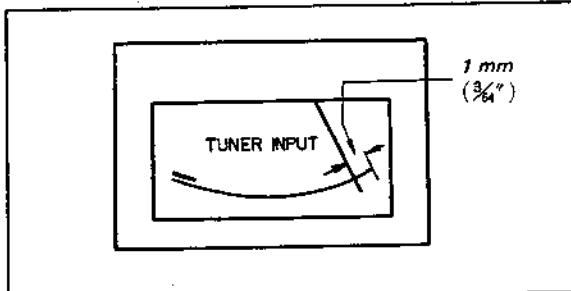
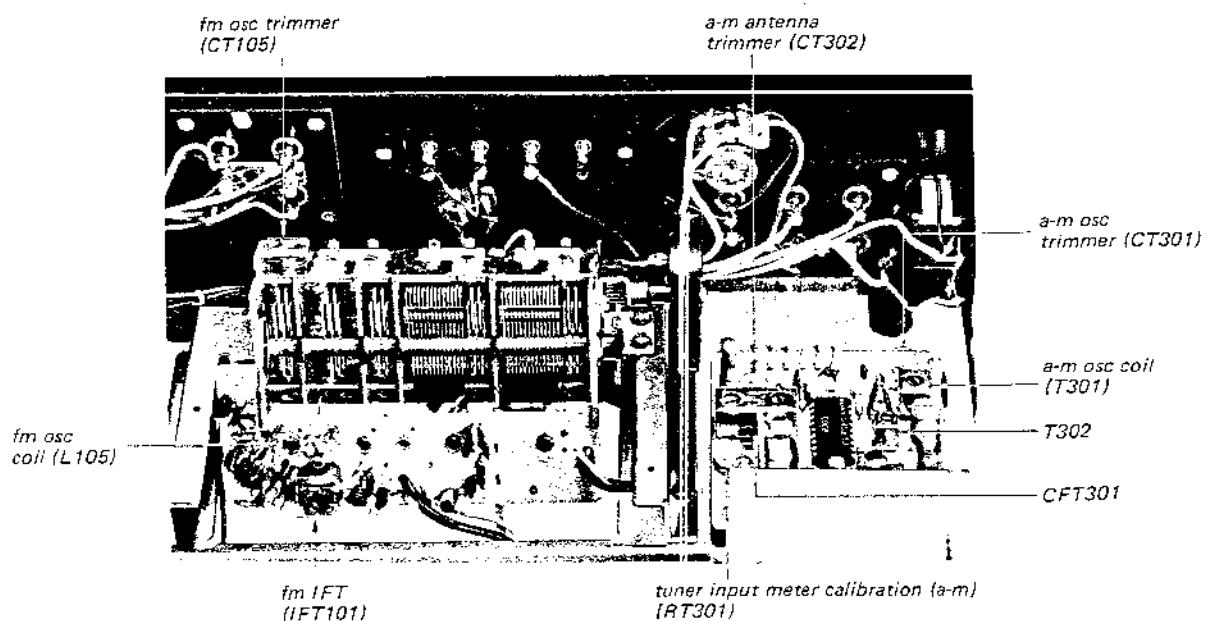
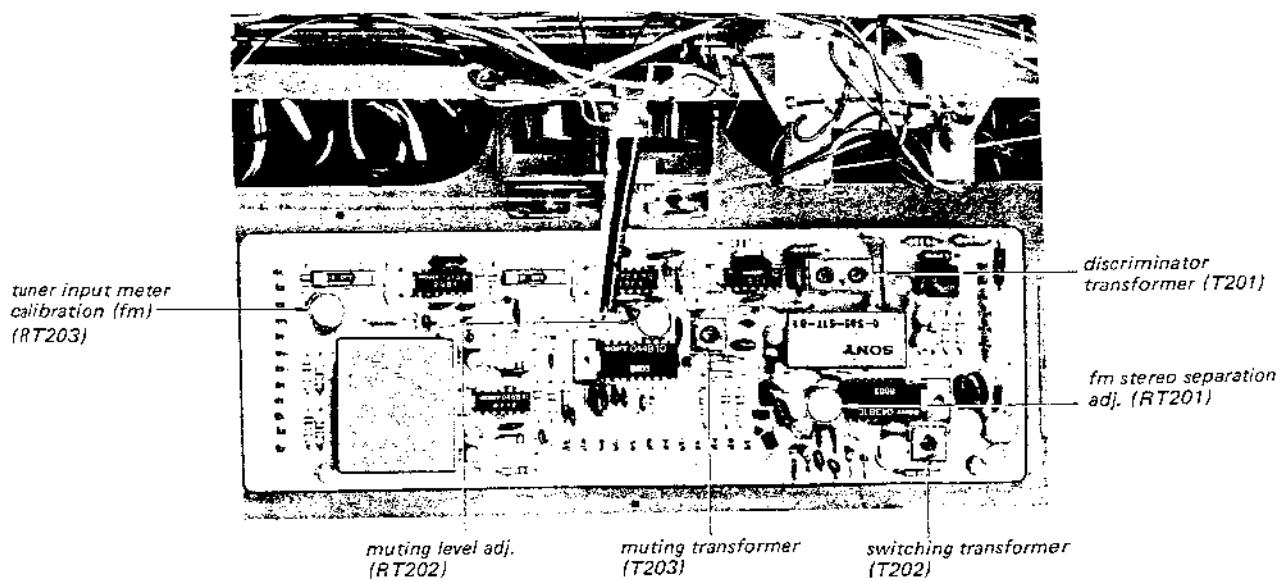

Fig. 3-10. TUNER INPUT meter calibration
Fig. 3-12. Adjustment parts location (1)
Fig. 3-13. Adjustment parts location (2)
- Precisely tune the set to the SSG's carrier frequency, then turn the top core of switching transformer T202, to obtain maximum output at left channel. See Fig. 3-13. Note that this adjustment has a close relationship with stereo distortion.
- The output-level to residual-level ratio represents the separation. Adjust separation adj. control RT201 (See Fig. 3-13) for minimum
Note: The i-f transformers (CFT301 and T302 See Fig. 3-12) in the a-m i-f amplifier circuit are adjusted at the factory, so very little adjustment is necessary in the field even if replacing any of these i-f transformers.
3. Precisely tune to the signal and adjust RT203 (See Fig. 3-13) to obtain the meter pointer within 1 mm (3/64") left of its maximum indication as shown in Fig. 3-10.
3. Precisely tune to the signal and adjust RT301 (See Fig. 3-12) to obtain the meter pointer within 1 mm (3/64") left of its maximum indication as shown in Fig. 3-10.